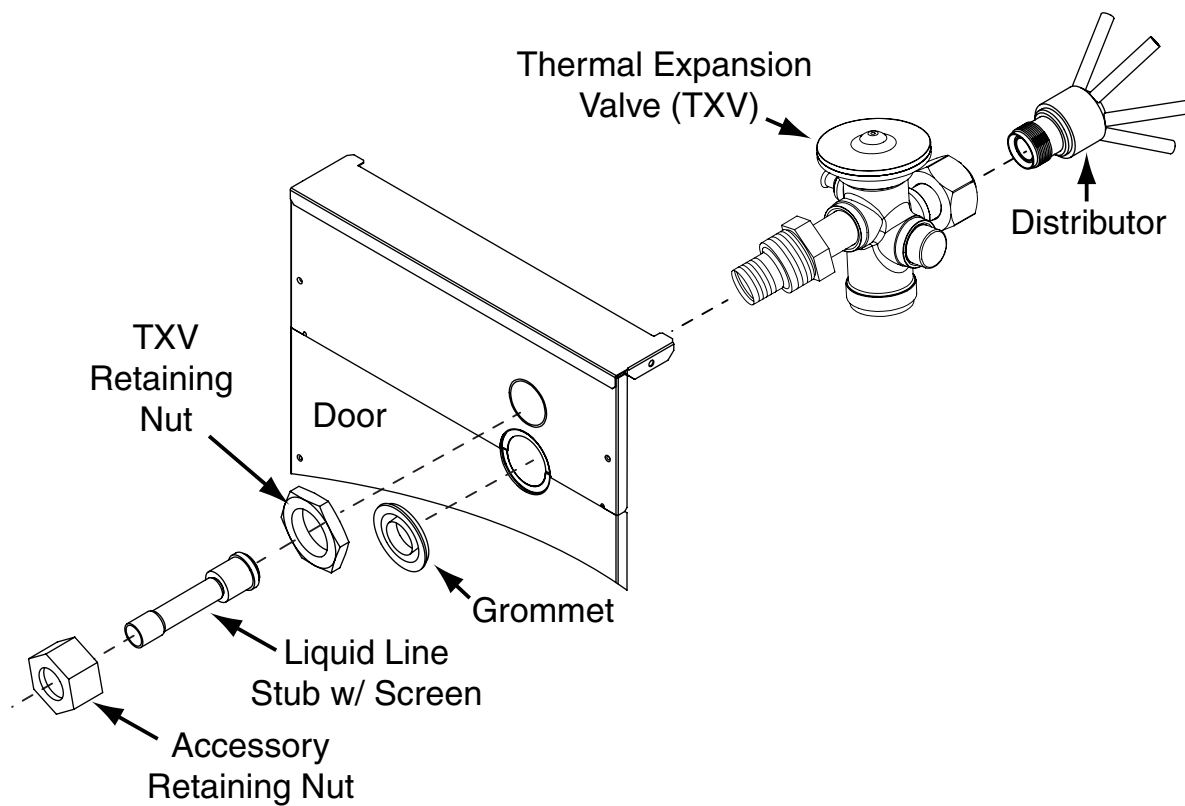

Figure 3. TXV Assembly
- Install the TXV retaining nut onto the inlet end of the TXV. See Figure 3 (page 6).
- Align the retaining nut on the TXV body and hand tighten both components. Mark a line on both bodies and then tighten an additional ¼ turn using two wrenches. See Figure 3. **NOTE:** The movement of the two lines will show how much the nut is tightened. If a torque wrench is used, tighten to 10-12 ft lbs or 14-16 Nm.